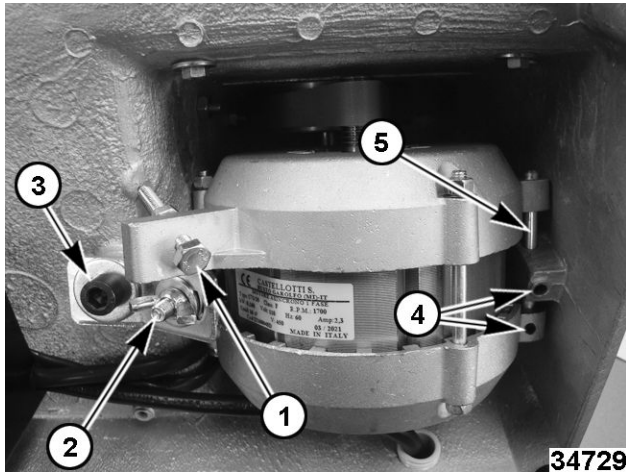

Fig. 19
- Loosen the stop screw (1, Fig. 19) and jam nut.
- Remove the tensioning wing nut and washers (2, Fig. 19) and loosen the tensioning jam nut (not visible in photo).
- Remove the tensioning bracket screw and washer (3, Fig. 19) and remove the tensioning bracket.
- Loosen both pivot pin set screws (4, Fig. 19).
- Remove the pivot pin (5, Fig. 19).
- Install the pivot pin (5, Fig. 19).
- Install the tensioning bracket with its screw and washer (3, Fig. 19).
- Install the tensioning wing nut and washers (2, Fig. 19).